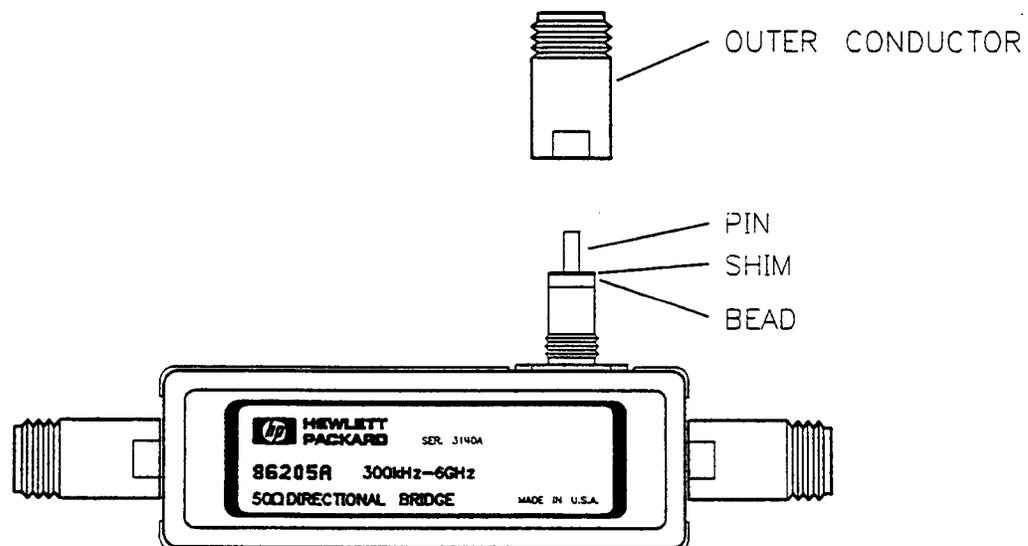

Figure 5-2. Shim Placement in the Connector Assembly
2. Look for a shim that is in the outer conductor or resting on the bead. (Not all connector assemblies require a shim.) If there is a shim, set it aside. Refer to Figure 5-2.
If the pin depth is out of tolerance (>0.207 in), insert a shim in the connector assembly by removing the outer conductor and placing a shim as shown in Figure 5-2.
If the pin depth is out of tolerance, insert a shim in the connector assembly by removing the outer conductor and placing a shim as shown in Figure 5-2.